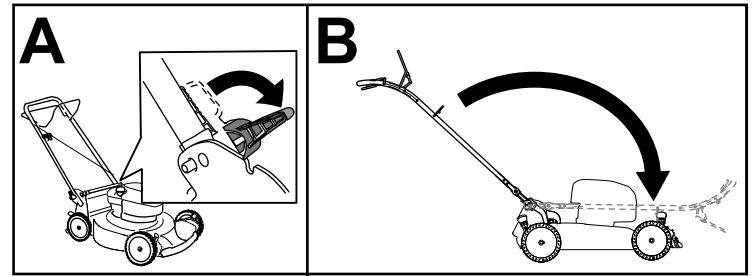

Figure 16
3. Fold the handle forward either to the vertical position or the fully forward position as shown in Figure 16.